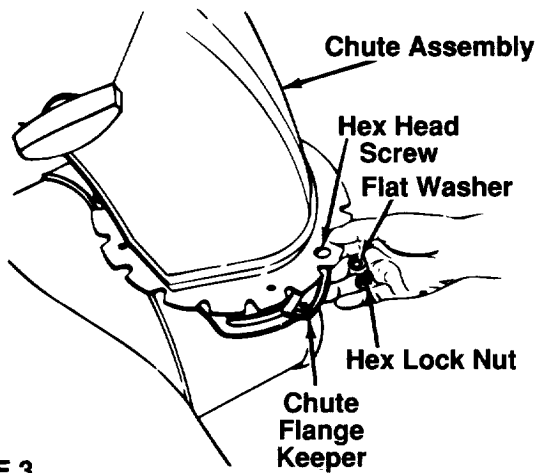

FIGURE 3.
2. Place chute assembly over chute opening, with the opening in the chute assembly facing the front of the unit. Place chute flange keepers beneath lip of chute assembly. Secure with hex head screws and hex lock nuts as shown in figure 3.